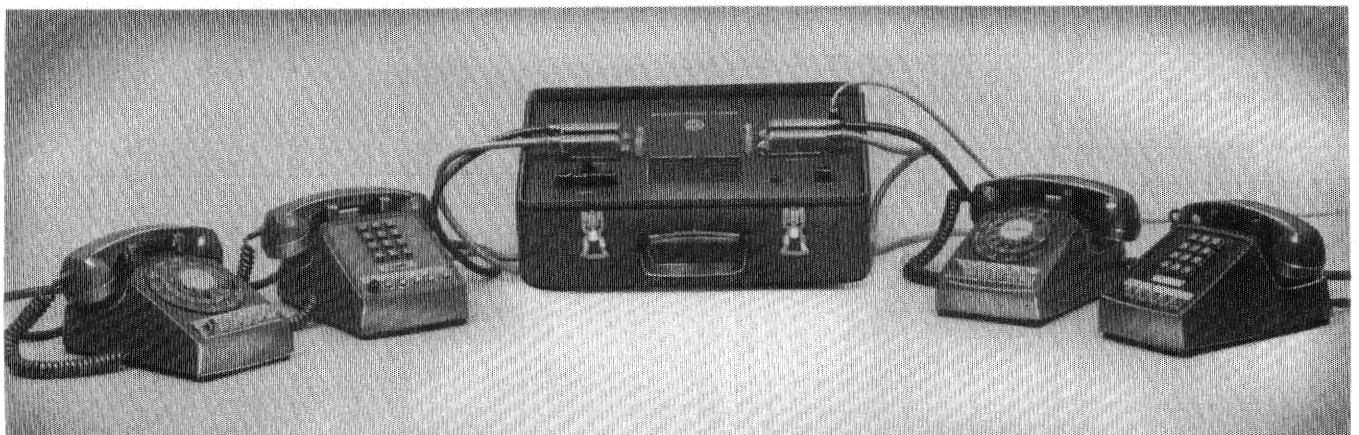

Fig. 2—KS-21564 Business Phone Trainer Assembled For Operation
**3.03** The KS-21564 Business Phone Trainer assembled for operation is shown in Fig. 2.